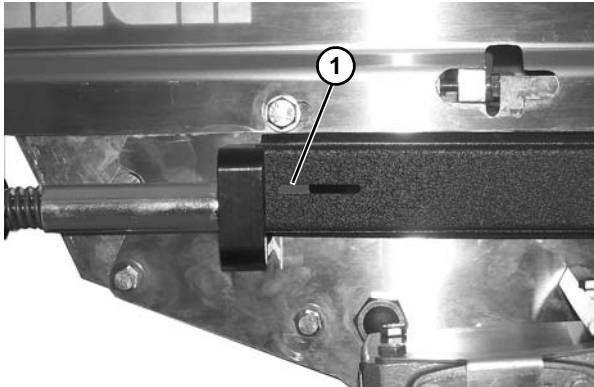

Figure 65
- If proper belt tension cannot be achieved before the out of tension indicator (**Figure 65, item 1**) begins to turn red, the belt must be replaced.